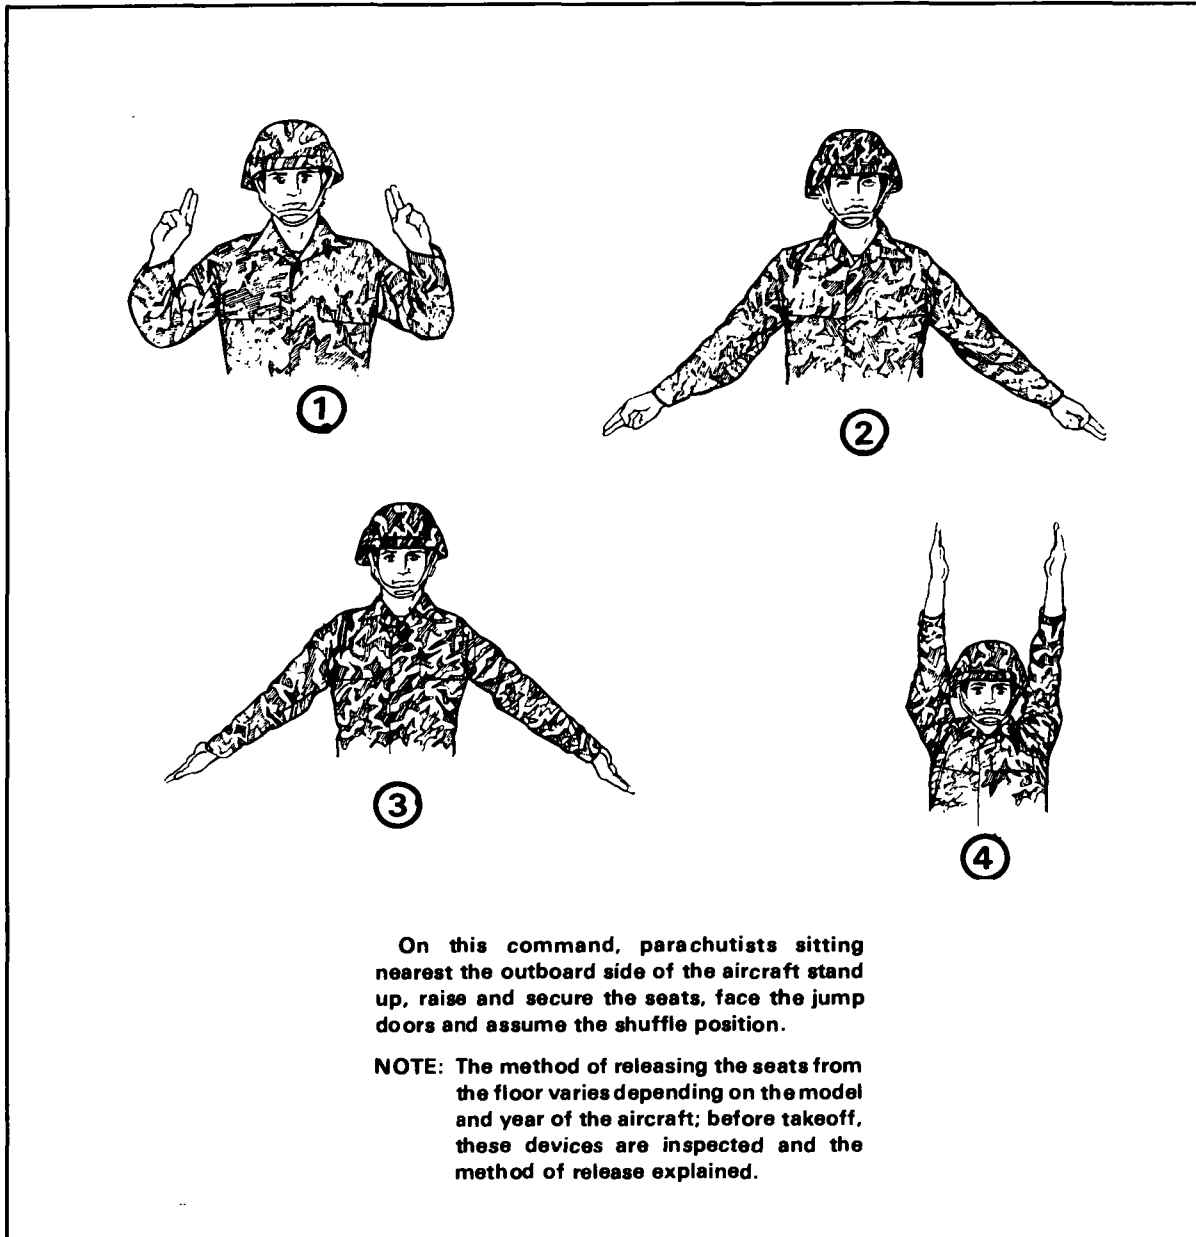

Figure 4-2. Outboard personnel, stand up.
(2) Give the command **STAND UP**. Extend and join the fingers and thumb of each hand, rotate the hands so the palms face up, raise the arms straight overhead, keeping elbows locked (Figure 4-2).